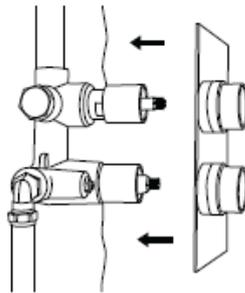

Fig 5
10. The trimplate is fitted by pushing it onto the mixer until it is flush with the tiles (Fig 5).